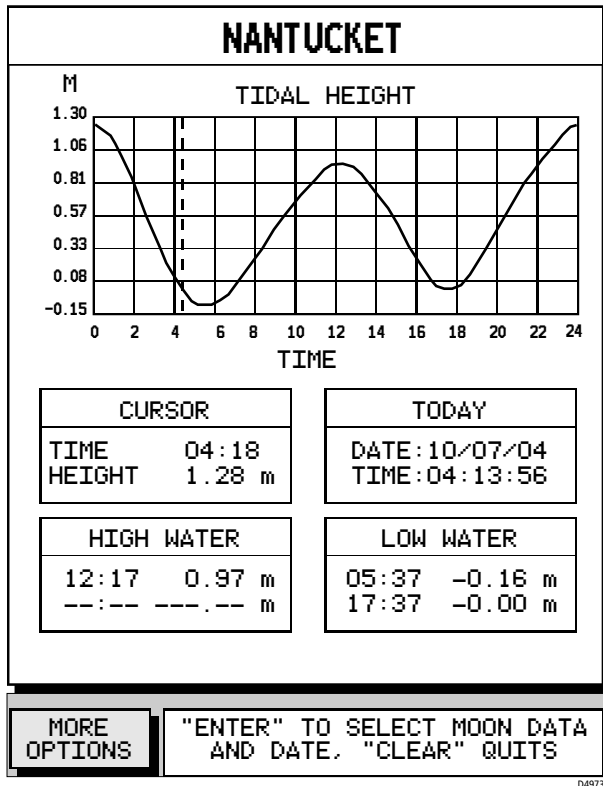

Figure 5-19: Tidal Height Display
2. Press **ENTER** to show the Tidal Heights information (*Figure 5-19*) or **CLEAR** to cancel the operation. If no Fix is available (to provide date information), a warning box appears.